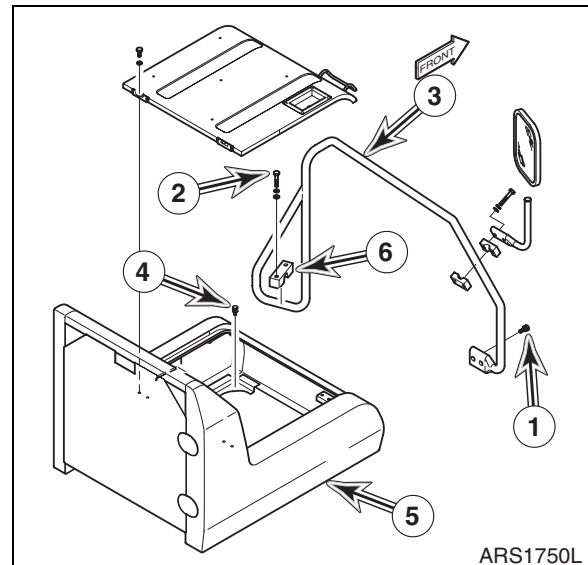

Figure 12
5. Install four bolts (4, Figure 12) and cover (5) on the frame.